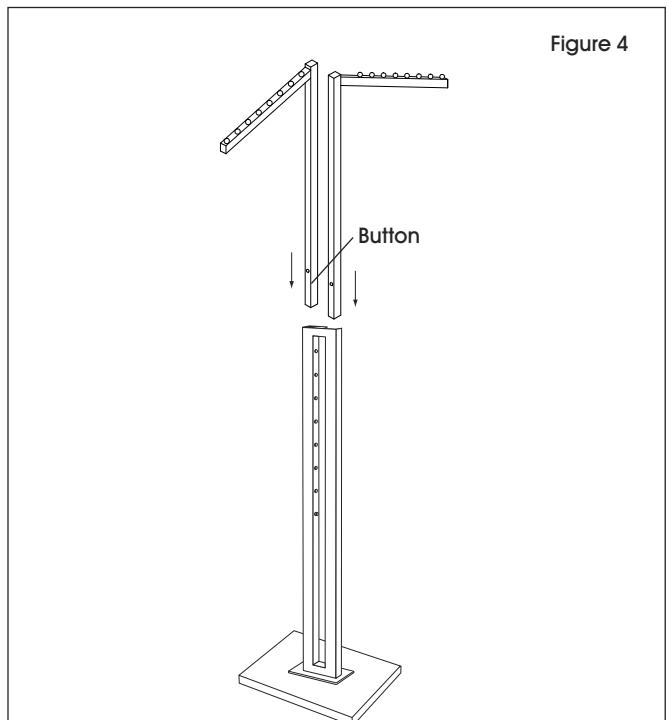

Figure 4
4. Slide arm into one of the holes at the top of the post. (See Figure 4)